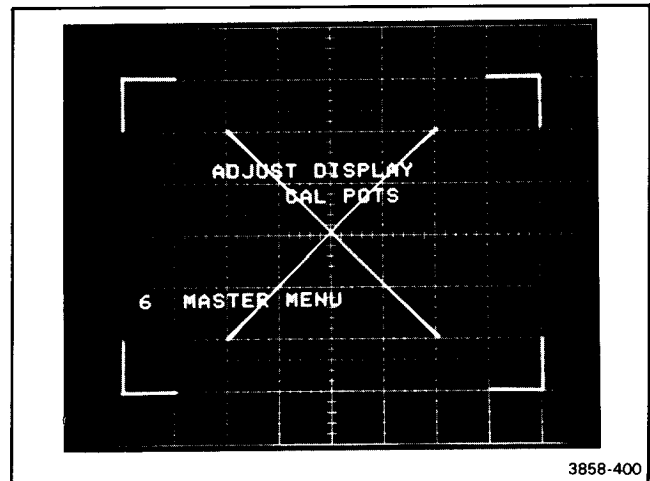

Figure 4-1. Display adjust pattern.
- f. While observing the adjustment pattern displayed on the oscilloscope mainframe crt, set VERT GAIN, VERT CTR, HORIZ GAIN and HORIZ CTR adjustments to place the corner markers of the displayed adjustment pattern on the center 6 × 8 divisions of graticule, as shown in Figure 4-1.
- g. Set VECT LIN adjustment for minimum trace separation of the diagonal lines on the displayed adjustment pattern as shown in Figure 4-1.